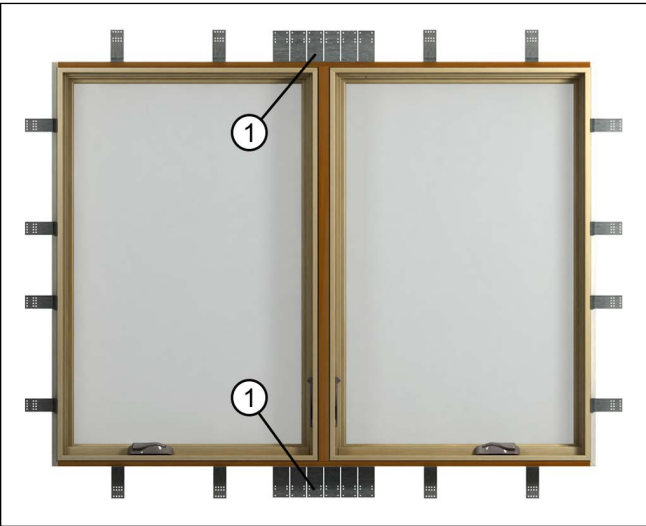
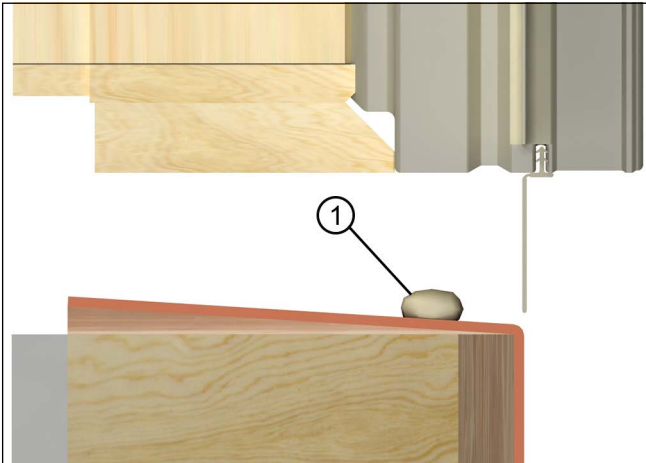

Figure 5 Structural mull brackets
Figure 6
1. All impact rated windows (except Round Tops) must be adhered to the sill with a discontinuous 5/16" bead of sealant on the framing sill where it will contact the window or door frame sill. See figure 5. Leave approximately 2" gaps on the ends. See figure 6. For Impact door installation methods refer to the General Door Installation Instructions \(part number 19915634\) and the product specific installation instructions for your product.